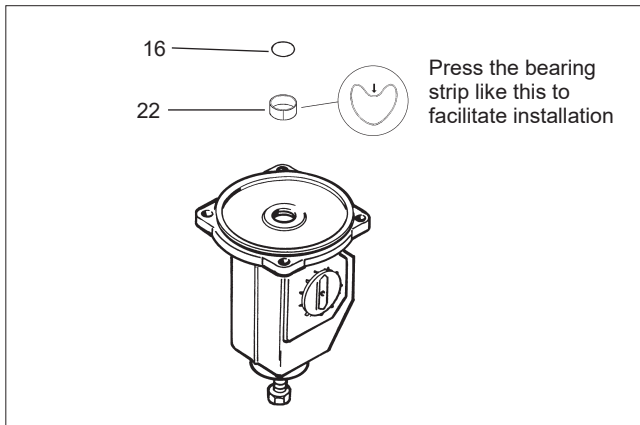

Fig. 9 Mounting the piston rod bearing and seal
- Remove the O-ring (16) and the bearing (22). Clean the seal space.
- Lubricate the seal space and the new O-ring with Unisilikon L250L or equal silicone grease. Install the new bearing and O-ring. See Figure 9.